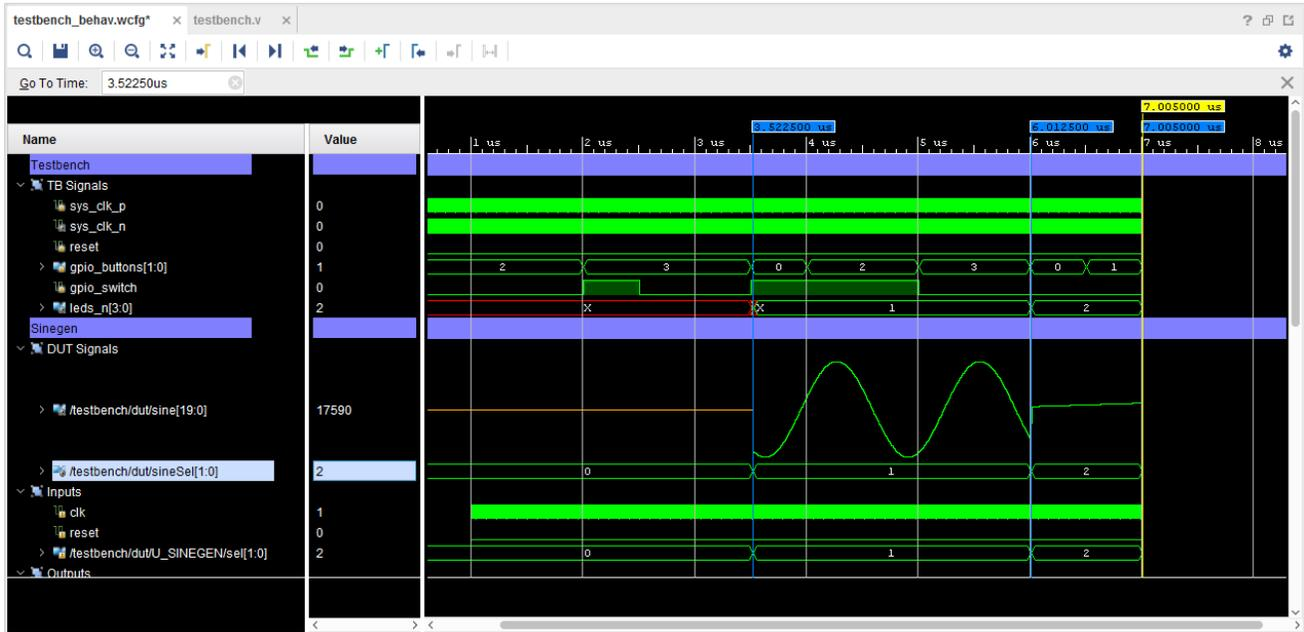

Figure 25: Using Markers
1. In the Waveform window select the `/testbench/dut/sineSel[1:0]` signal, as shown in Figure 25.
With markers identifying the transitions on `sineSel`, the Waveform window should look similar to Figure 25. As previously observed, the low frequency signals are incorrect when the `sinSel` signal value is 0.